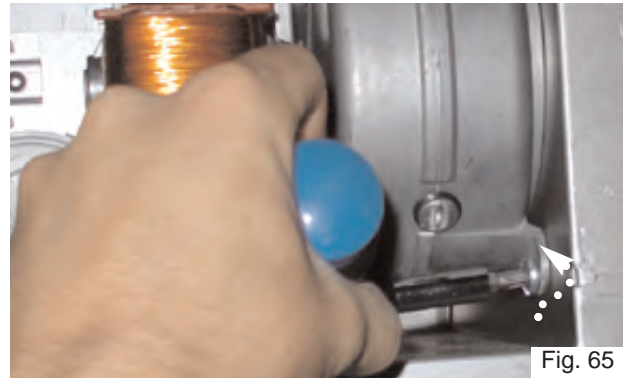

Fig. 65
3. Remove the screw fixing the fan to the flue outlet (see Fig. 65);